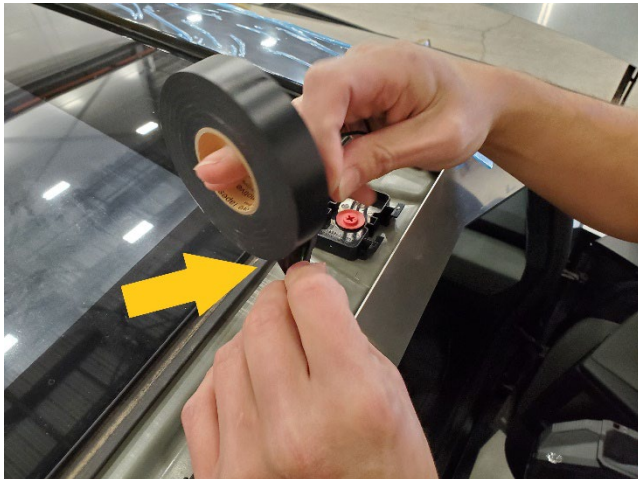

Figure 27
28. Wrap the entire off road lightbar harness and splice areas with electrical tape (Figures 27 and 28).